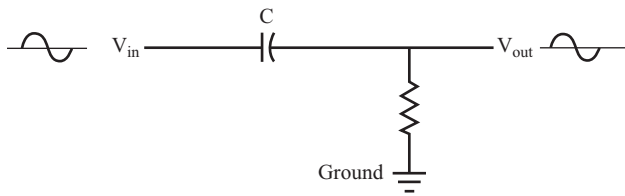

FIGURE 6.2
**4** For simplicity, consider all inputs at this time to be pure sine waves. The circuit shown in Figure 6.2 shows a sine wave as the input signal to a capacitor.